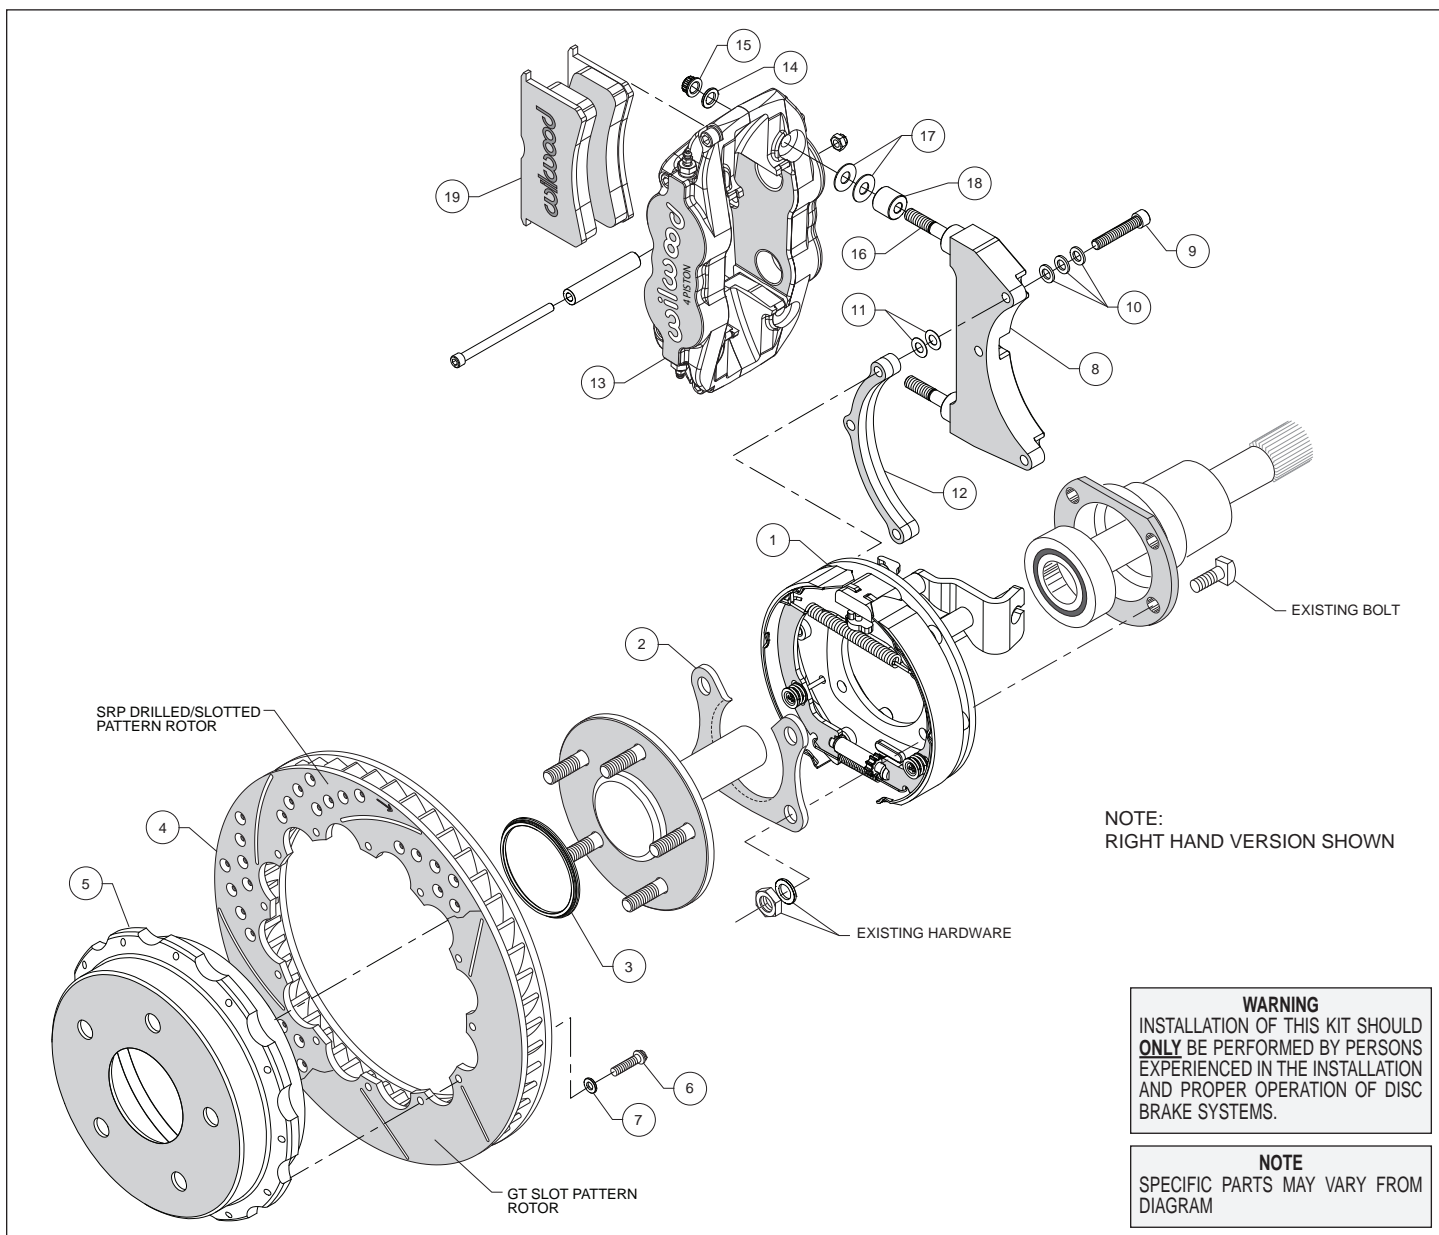
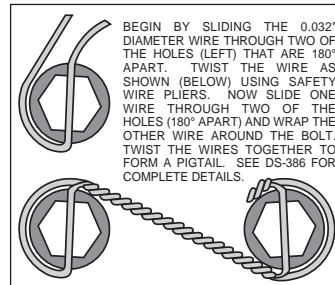

Figure 1. Typical Installation Configuration
Figure 5. Safety Wire Diagram
Assembly Instructions (numbers in parenthesis refer to the parts list, and Figure 1 on the preceding pages): **CAUTION:** All mounting bolts must fully engage clinch nuts. Be sure to check that all bolts are either flush or protruding through flanged side of clinch nut after shiming.
- Orient the bracket assembly (1) as shown in Figure 1 and Photo 1 and slide it onto the axle. Insert the axle and bracket into the axle housing. Ensure that the bracket assembly backing plate fits flush against the axle housing flange.
- Install the bearing retainer (2) with the opening pointing upward and the lip facing inward (toward the bearing), as shown in Figures 1 and 4, and Photo 2. Secure retainer and bracket assembly to the axle housing flange using the Original Equipment Manufacturer (OEM) bolts, washers, and nuts, Figure 1. Apply red *Loctite*® 271 to the OEM bolt threads and torque to OEM specifications.
•**NOTE:** Please reference the caution statement at the beginning of the assembly instructions. The caliper mounting bracket (8) should initially be installed with clean, dry threads on the mounting bolts. Orient the bracket as shown in Figure 1 and Photo 3, and install using bolts (9) and three flat washers (10). Initially place two .015" shim washers (11) on each bolt between the bracket (8) and spacer (12), Figure 1. Temporarily tighten the mounting bolts. **NOTE:** End of bolt should not exceed inside face of insert. The bracket must tighten squarely against the back side of the bracket kit assembly (1). Later, after the caliper alignment has been checked, the mount bolts will be secured using red *Loctite*[®].
•Orient the rotor (4) and the hat (5) as shown in Figure 1 and Photo 4. Attach rotor to hat using bolts (6) and washers (7). Using an alternating sequence, apply red *Loctite*[®] 271 to the threads, and torque to 140 **in-lbs**. For an added measure of security, the bolts may be safety wired using standard 0.032 inch diameter stainless steel safety wire as shown in Figure 5. Please refer to Wilwood's data sheet DS-386 (available at www.wilwood.com/Pdf/DataSheets/ds386.pdf) for complete safety wire installation instructions.
•Slide the rotor registration adapter (3) onto the axle register on the axle flange with the smaller O.D. facing toward the rotor/hat (4/5), Photo 5. Align the hole pattern in the hat with the stud pattern on the axle flange and slide into place, Figure 1 and Photo 6. **NOTE:** The rotor/hat must fit flush against the axle flange or excessive rotor run out may result. Install three lug nuts (finger tight) to keep the rotor/hat assembly in place while continuing with the installation. **NOTE:** Some OEM and after market axles come with stud sizes larger than 0.50" diameter. Verify stud size and have a qualified machine shop drill the bolt circle of the hat/rotor to the correct stud size, if necessary.
•Lubricate the caliper mounting studs (16) with lightweight oil. Initially place two .035" thick shims (17) and spacer (18) on each stud as shown in Figure 1 and Photo 7. Mount the caliper (13) onto the bracket (8) using lock nuts (15) and washers (14), Figure 1. Temporarily tighten the lock nuts and view the rotor through the top opening of the caliper. The rotor should be centered in the caliper, Photo 8. If not, adjust by adding or subtracting shims (11) between the bracket (8) and the spacer (12). Always use the same amount of shims on each of the three mounting bolts. Once the caliper alignment is correct, remove the bracket mounting bolts (9) one at a time, apply red *Loctite*[®] 271 to the threads, and torque to 180 **in-lb**.